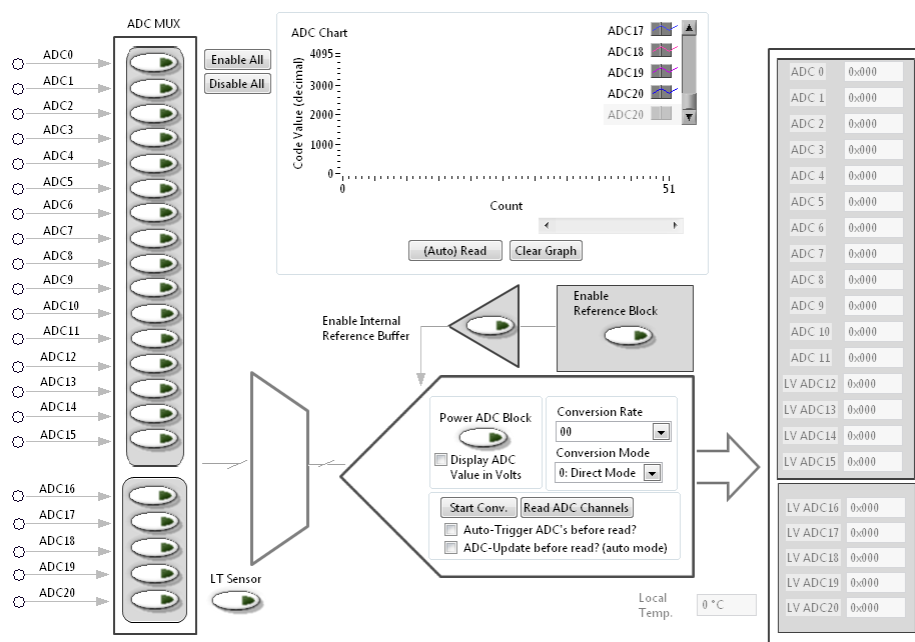

Figure 12. ADC Page
This page provides insight into the functionality of the AMC7836's (21) channel 12-bit ADC. The ADC block includes sixteen bipolar ADC channels featuring a -10 - to 10 -V input range, and five low voltage unipolar analog channels that accept a 0 - to 5 -V range. The channels with the twenty volt range are labeled as (ADC0–ADC15), while channels with five volt ranges are printed as (LV_ADC16–LV_ADC20). Figure 12 displays the ADC Page.